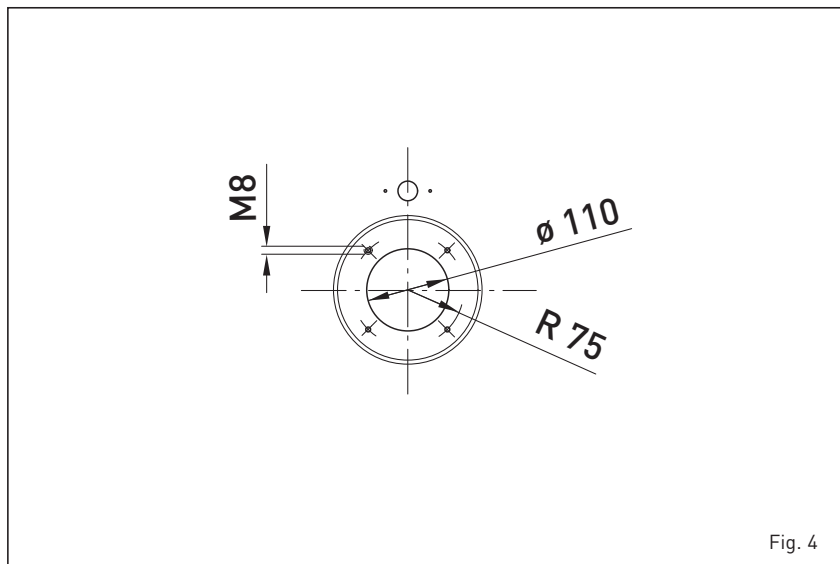

Fig. 4
1.7.2 Burners assembly (fig. 4)
The boiler door details is shown in figure 4 for burner mounting. The burners must be regulated such that the CO₂ value is that indicated in point 1.3, with a tolerance of ± 5%.